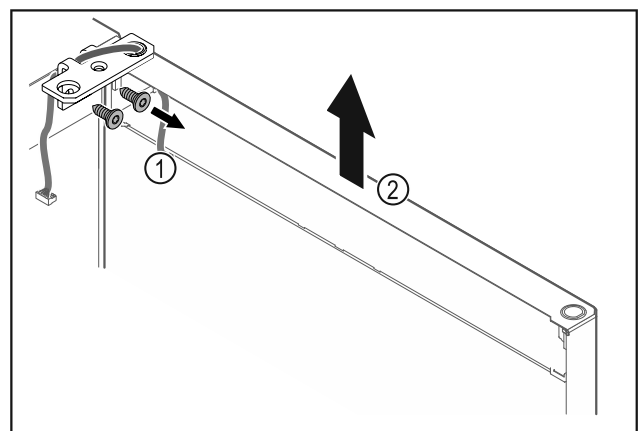

Fig. 20
- Unscrew the hinge Fig. 20 (1).
- Lift the door with the hinge straight up by Fig. 20 (2) roughly 200 mm and take it off.